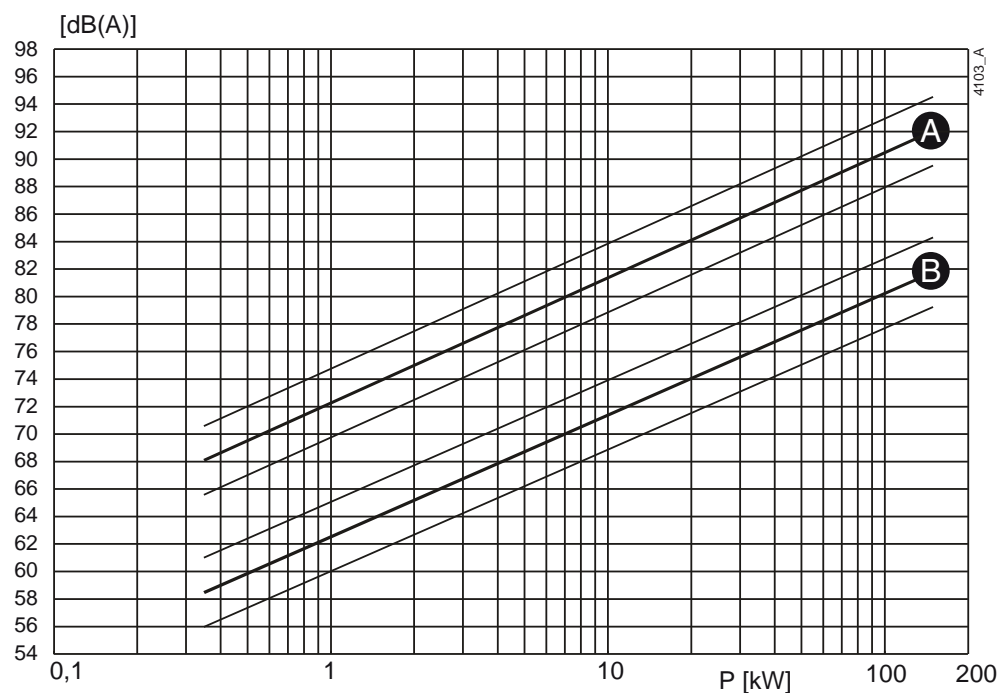
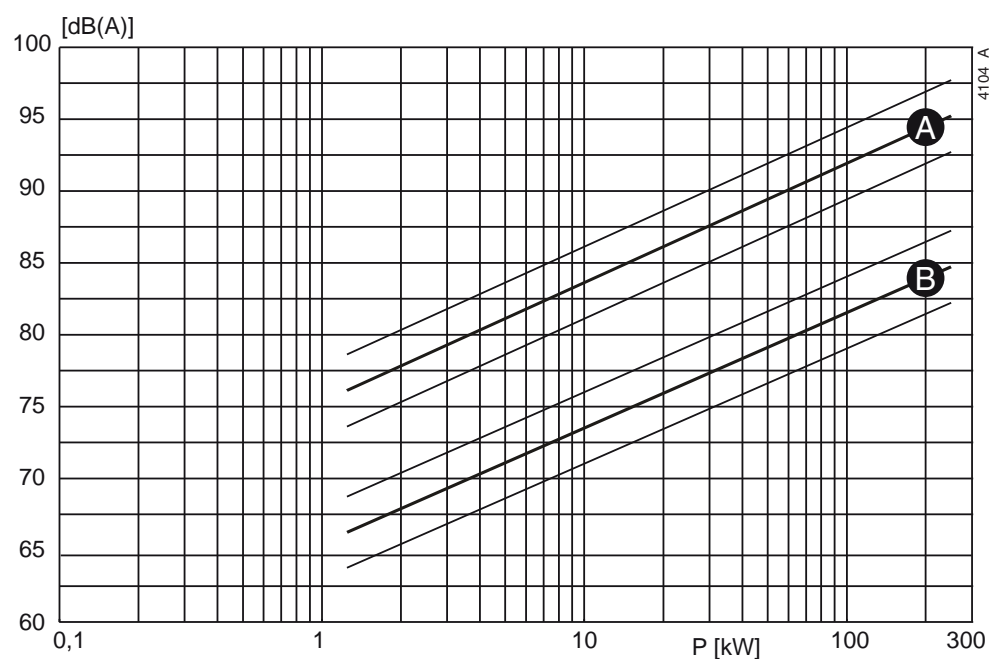

Figure 61: Noise level as function of pump power [kW] at  $1450 \text{ min}^{-1}$
Figure 62: Noise level as function of pump power [kW] at  $2900 \text{ min}^{-1}$
- 1 Determine the noise level (L1) of the pump, see figure 61 or figure 62.